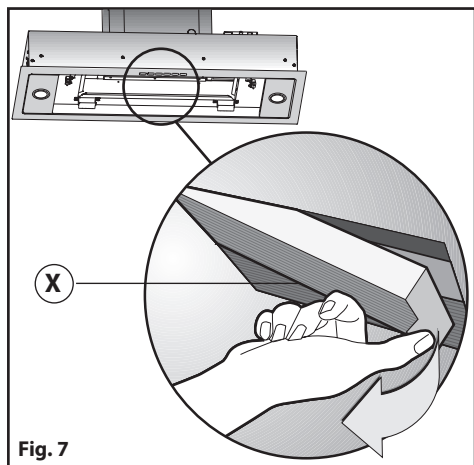

Fig. 7
-To replace the carbon filters **X**, pull lever outwards as shown in **Fig.7**.